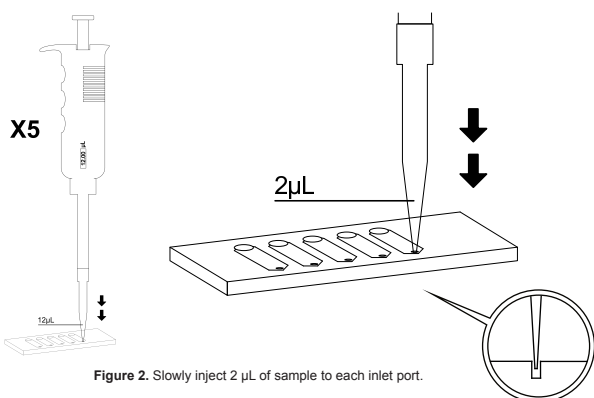

Figure 2. Slowly inject 2 µL of sample to each inlet port.
5. Use the 1-10µL micropipette fitted with the recommended tip to slowly add 2µL of liquefied semen sample to the inlet port (Figure 2). As in the previous step, do not allow the micropipette to "bottom out". Ensure free flow of the semen sample. Ignore any excess solution buildup at the inlet port.